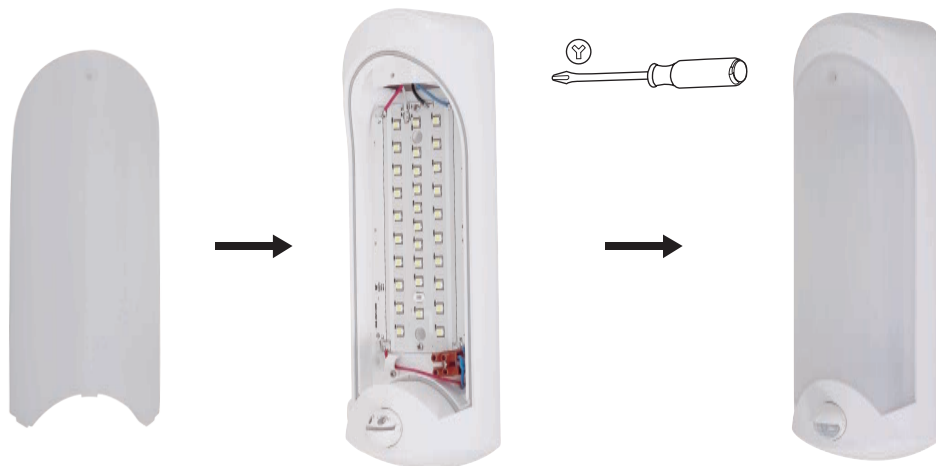

Fig.5
- Step 5 Fasten the cover to the lamp base which has been installed on the wall.(Fig.5)